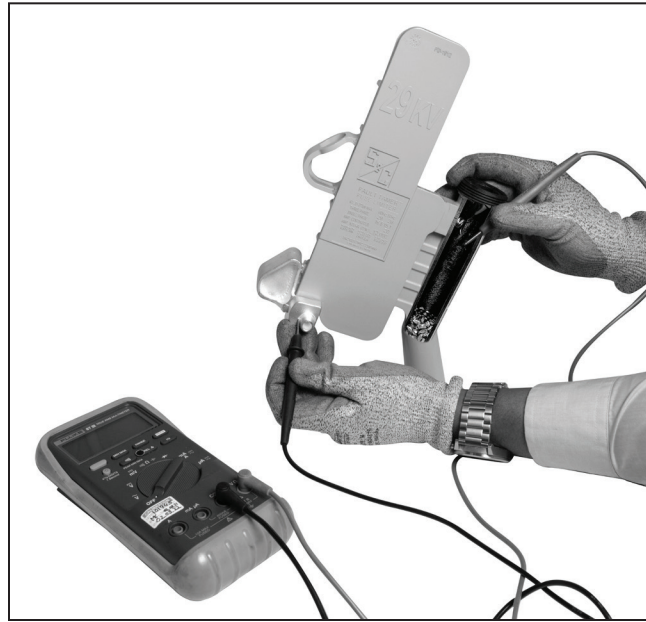

Figure 5. Checking the continuity of a backup limiter.
STEP 5. Immediately prior to installation, check the limiter to ensure no damage occurred during shipping. Visually inspect the unit with the trunnion removed to make sure there are no cracks or other visible damage. Check continuity to ensure internal limiter components were not damaged during shipping. See Figure 5 on page 10.
- STEP 3.** Determine whether the backup limiter has operated by checking its continuity. Touch one lead of the continuity tester to the trunnion and the other to the button contact inside the exhaust-control device. See Figure 5. The continuity test must be performed as part of the re-fusing procedure after every Fault Tamer Fuse Limiter operation.
Do not remove the screen or copper shot at the bottom of the exhaust-control section. See Figure 5 on page 10.